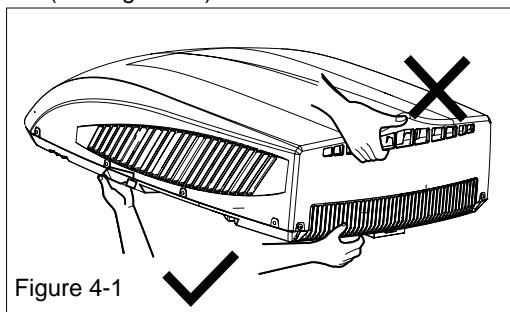

Figure 4-1
- 1) When taking out the outdoor unit after unpacking, do not lift the air outlet grille at the back of outer case (see Figure 4-1).